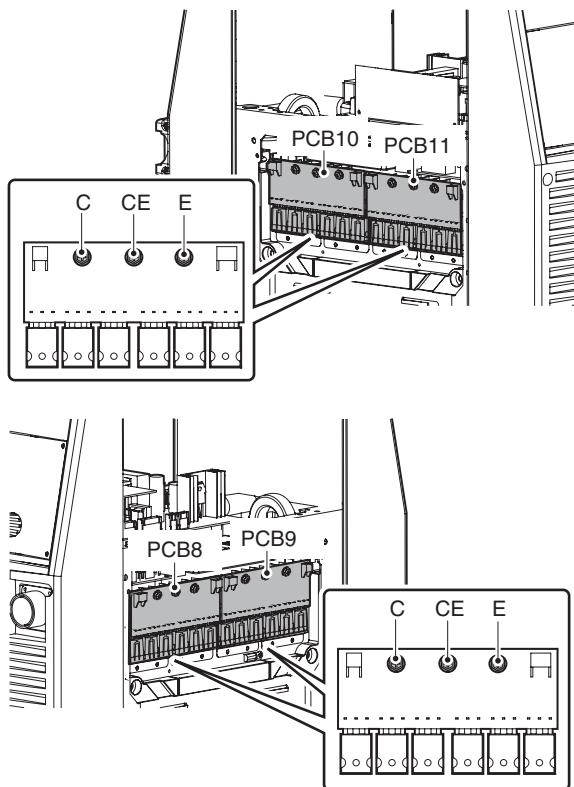

Figure 6-16: Tester checkpoints for Q1-Q24
- 3) Refer to Table 6-7 and Figure 6-16 for the checkpoints on PCB8-PCB11.